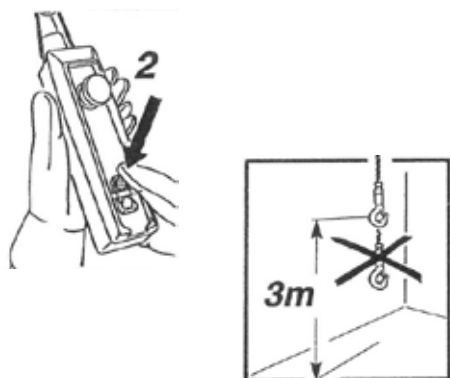

fig.149
18. Use of the hoist must always be terminated by using the "2" up button to bring the hook to the disengaged position at a height of not less than 3 m from the ground. (fig.149)